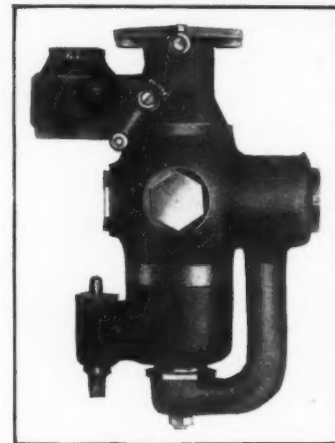

Fig. 4—Harroun kerosene carbureter
**Harroun Vertical Kerosene Carbureter**—The Ray Harroun Co., Indianapolis, Ind., is now marketing its kerosene carbureter designed by the former racing driver, Ray Harroun. A test made with this device was described in THE AUTOMOBILE for April 26. The carbureter Fig. 4, consists of a housing or shell equipped with an intake F for the kerosene, which latter flows thence to a nozzle in a choke tube, the nozzle being of special design. The regulation of the flow of fuel is by a float-chamber device contained in the lower portion of the housing. The heat of the exhaust is used to heat the fuel after the same has been partially mixed and atomized by the nozzle. Primary air enters through A, and auxiliary air through A1. The latter valve device is linked to the fuel nozzle, which is closed automatically through the movement of the auxiliary air device. The only control mechanism is operated from the dash. The auxiliary air is cold when admixed to the primary mixture.